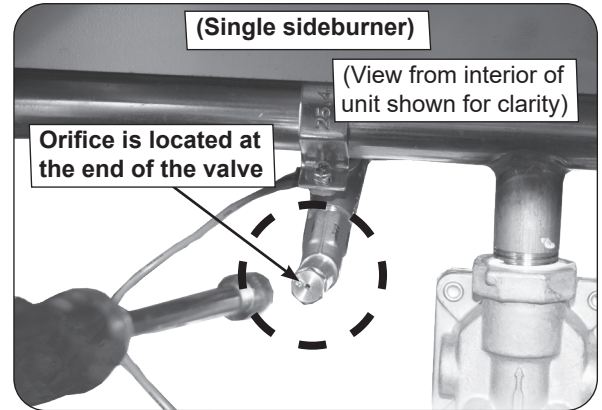
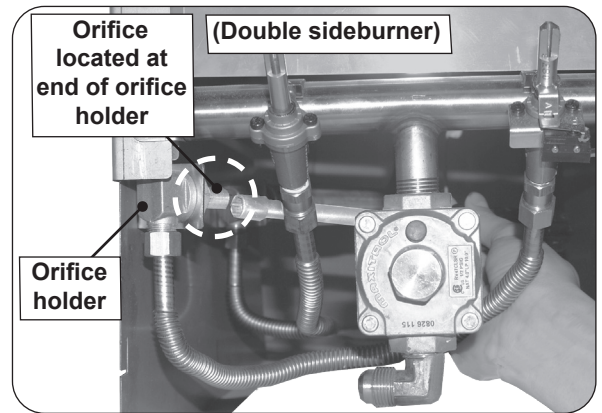

Fig. 41-1 Single sideburner orifice location
Fig. 41-2 Double sideburner orifice locations
4. Using a $\frac{3}{8}$ " socket nut driver, remove the orifice from the orifice holder (see Fig. 41-1 and Fig. 41-2) and check the number stamped on the orifice face.